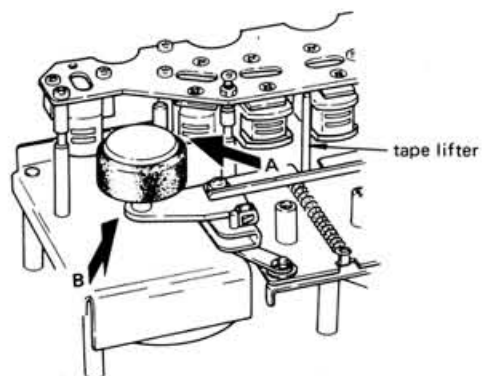
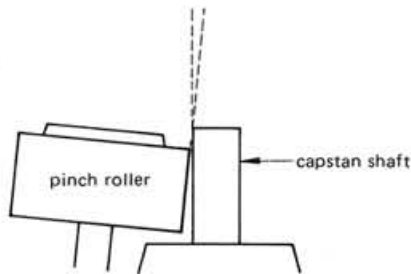

Fig. 2-15 Directions for pinch roller parallelism check
Fig. 2-16 View in direction A (example of non-parallelism)
1. Let pinch roller draw near toward capstan shaft by manually lifting up tape lifter shown in Fig. 2-15.
2. Check pinch roller/capstan shaft parallelism viewed from direction of arrow A shown in Fig. 2-15. Refer to Fig. 2-16.
- (1) Use the jig as near as possible to the pinch roller spindle.
- (2) Do not touch the surface of spindle.
- (3) Use no other tool for this adjustment!
4. Remove pinch roller, then push up tape lifter to visually align pinch roller spindle with the capstan shaft viewed from direction of arrow B in Fig. 2-15.